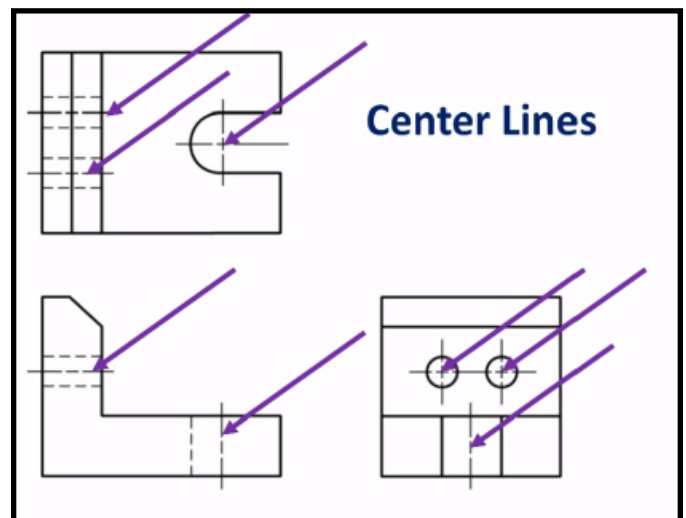

Figure 1.21 - Center Lines
- Notice center lines and center marks (figure 1.21) extend past the visible lines.